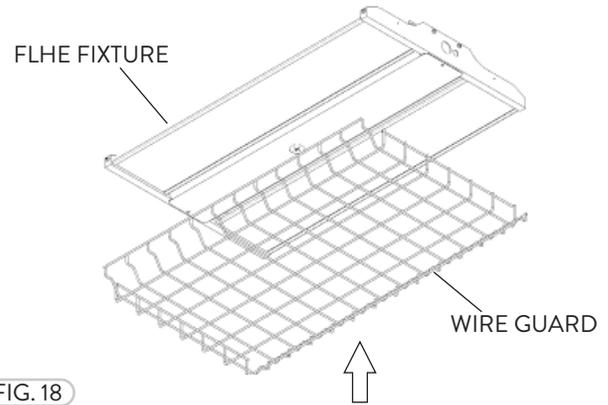

FIG. 18
- 1 The Wire Guards are in various sizes for the corresponding FLHE fixture chosen (Fig. 18).